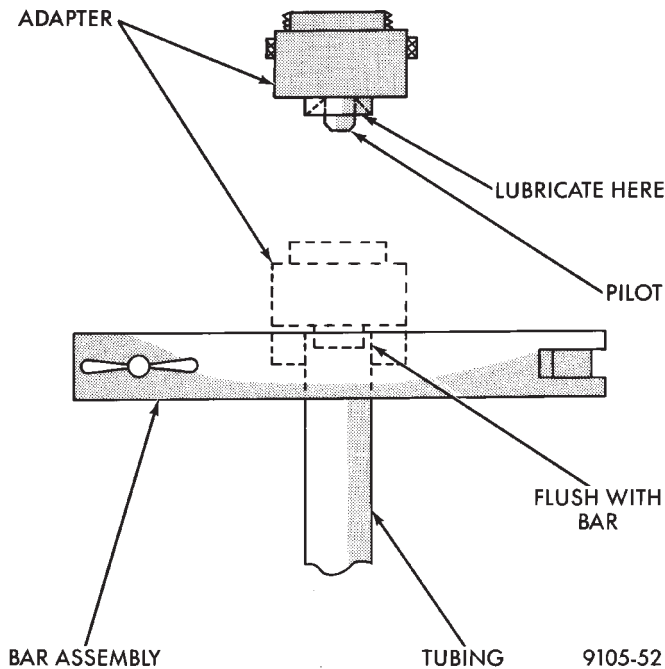

Fig. 15 ISO Flaring
- (1) Cut off damaged tube with Tubing Cutter.
- (2) Remove any burrs from the inside of the tube.
- (3) Install tube nut on the tube.
- (4) Position the tube in the flaring tool flush with the top of the tool bar (Fig. 15). Then tighten the tool bar on the tube.
- (5) Install the correct size adaptor on the flaring tool yoke screw.
- (6) Lubricate the adaptor.
(7) Align the adaptor and yoke screw over the tube (Fig. 15).
(8) Turn the yoke screw in until the adaptor is squarely seated on the tool bar.